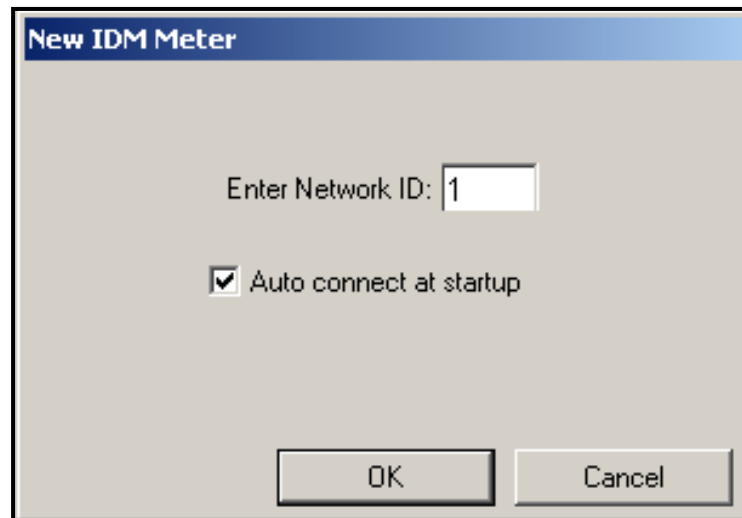

Figure 37: *New IDM Meter* Screen
4. The *New IDM Meter* screen (shown in Figure 37) opens. Enter the Network ID number for the meter, and click [OK].